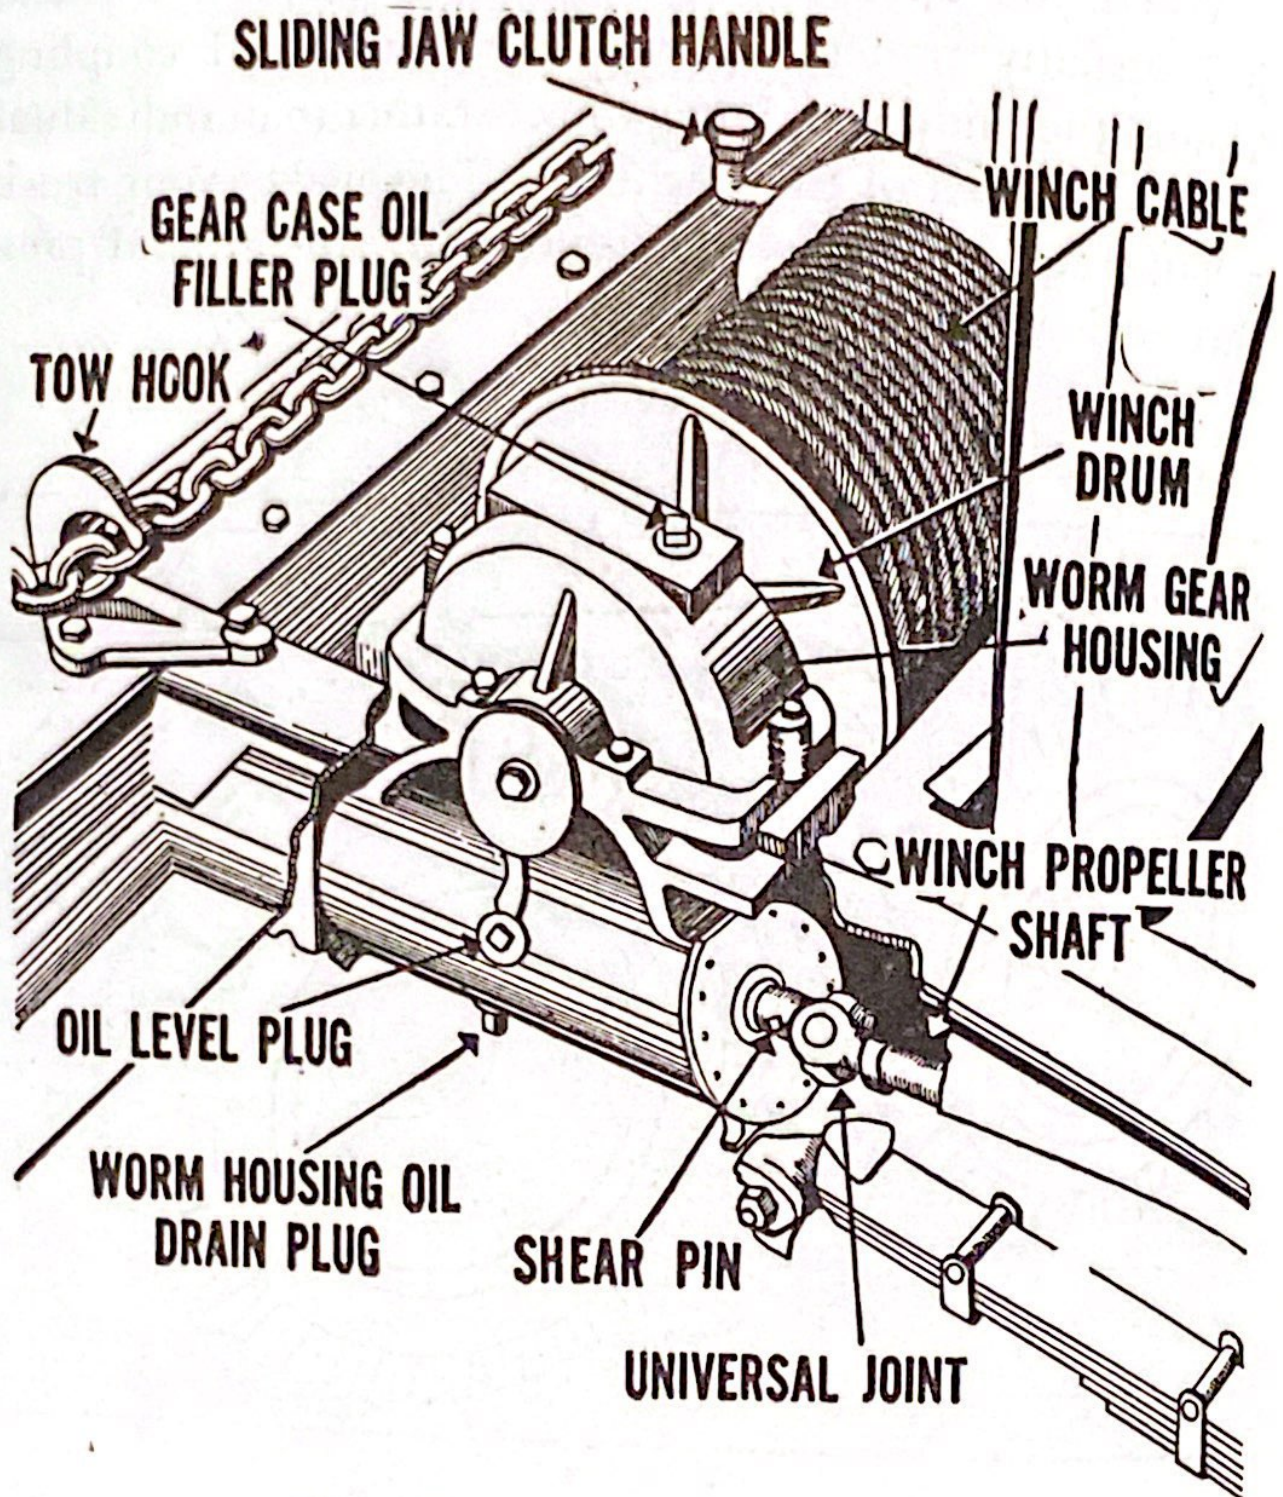

Figure 26. A front-mounted winch.
b. Look out for snapped cables. When a strong steel cable is tightened it may break, flying back like a whip with force enough to kill a man or to cost him his leg. Everybody should therefore stand clear before the winch cable is tightened. All newer front-mounted winches are provided with shear pins (fig. 26) as a precaution against overloading the winch or snapping the cable. The shear pin is located in the yoke of the universal joint that drives the winch worm-gear shaft. When the winch is overloaded, the shear pin is supposed to break instead of the cable. Never use makeshift pins of unknown strength to replace broken shear pins; if the pin is too strong, the cable may snap and injure somebody. Use only the manufacturer's soft metal pins, made to fit the hole without forcing.
(2) Do not operate the winch with an engine speed exceeding 1,000 rpm (about $\frac{1}{4}$ throttle).
(3) Use the high speed of the winch for light loads and for reeling in the cable. Use the low speed for heavy loads. The winch can be stopped almost instantly by disengaging the vehicle clutch.
(4) Pay out the cable by disengaging the sliding-jaw clutch, controlled by a lever (fig. 26) and pulling out the cable by hand. Use the reverse gear only for easing the strain on the winch cable or for lowering a load downhill.